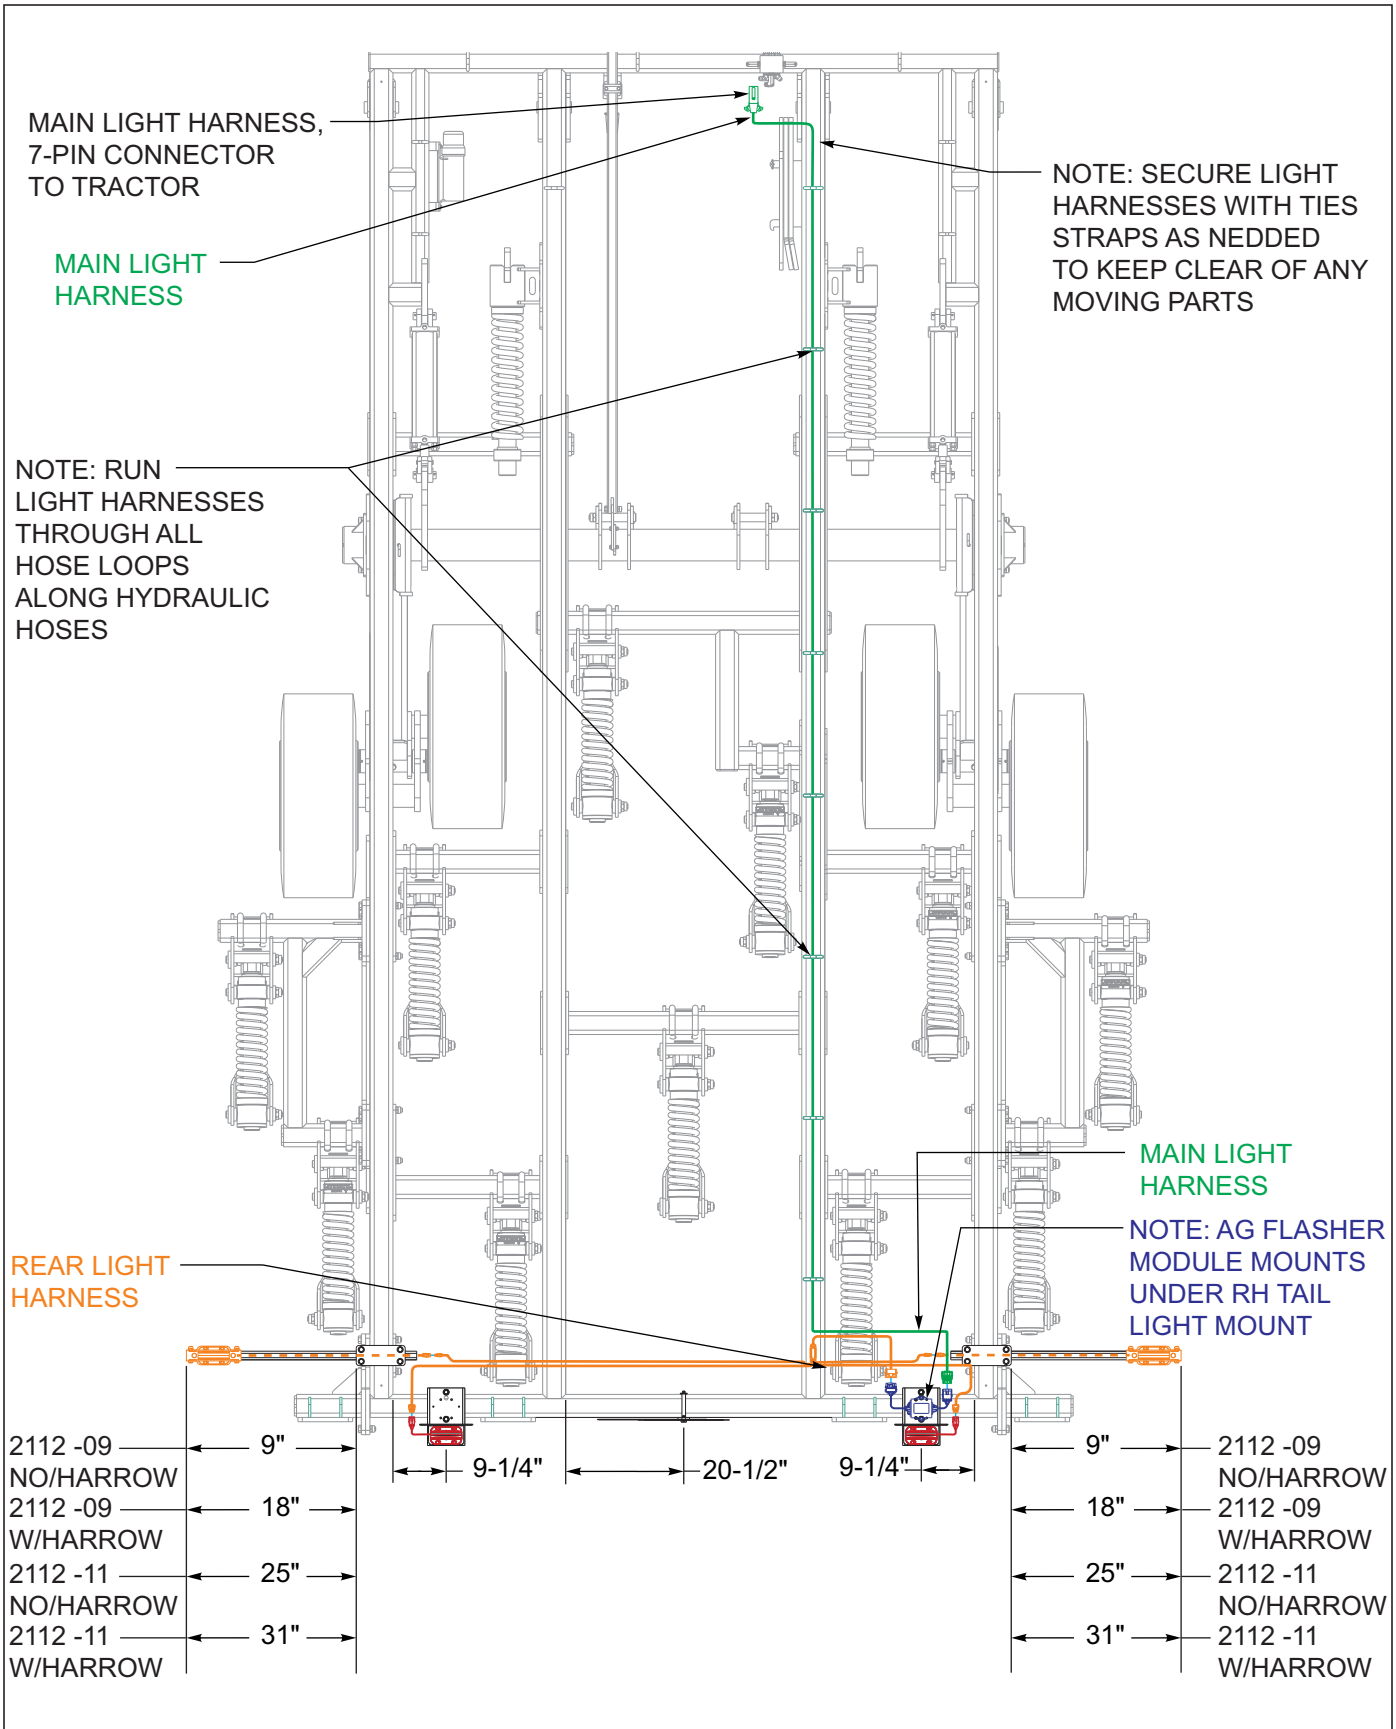
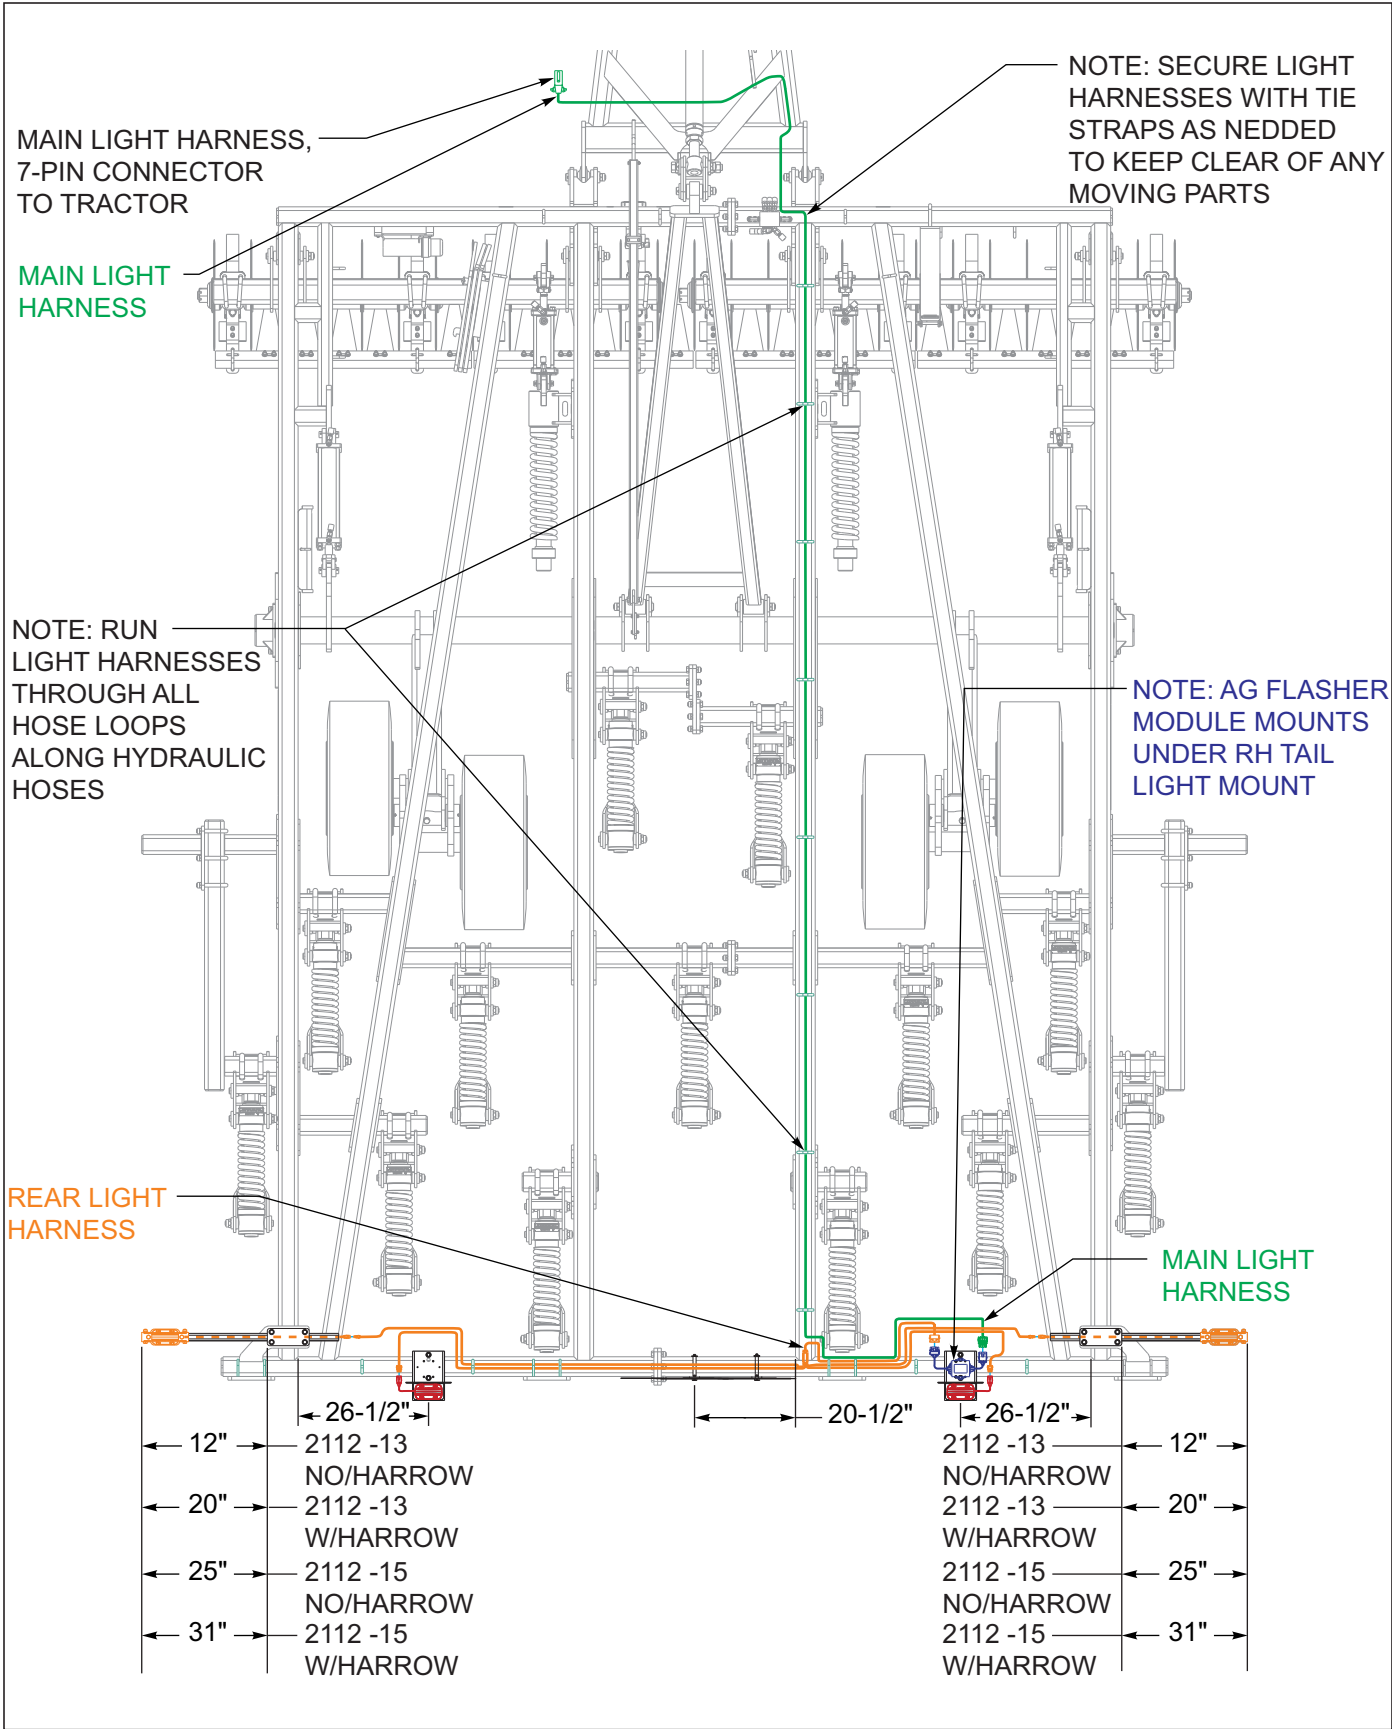

Figure 3-19: LED Light Layout 2112-09-11
Figure 3-20: LED Light Layout 2112-13-15
Refer to See Figure 3-19 for light bracket and wiring harnesses placement.
Make sure lights are positioned for maximum visibility from the rear See Figures 3-19.
7. Model 2112-09, remove the 1 x 7-1/2 bolts and 1 lock nuts. Attach the wrench mount with 1 x 7-1/2 bolt and 1" lock nut to the combo harrow mount arm. See Figures 3-19 or See Figures 3-20 for proper location of the wrench mount.